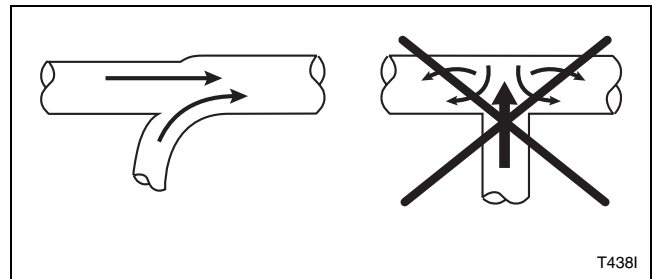

Figure 11
**Never connect a tumbler duct at a 90° angle to the collector duct (refer to *Figure 11*). Doing so will cause excessive back pressure, resulting in poor performance. Never connect two tumbler exhaust ducts directly across from each other at the point of entry to the collector duct.**